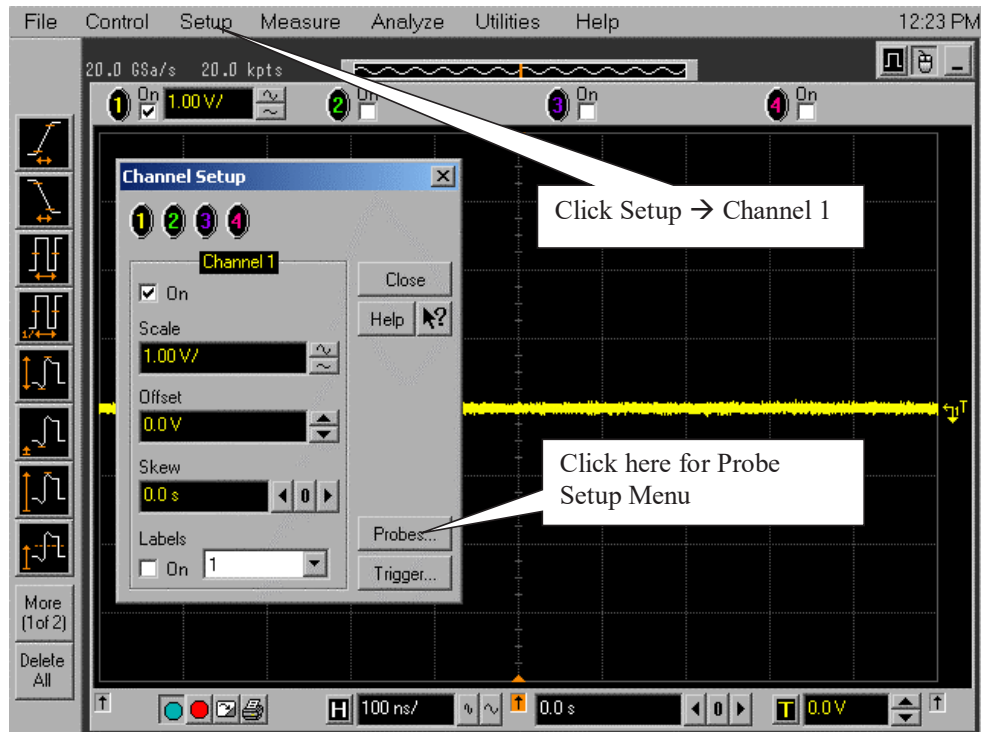

Figure 8 Channel Setup Window.
- 2 Referring to Figure 8 below, perform the following steps:
- 16 Click the Close button on the Channel Setup window (Figure 8 on page 581) to close this window.